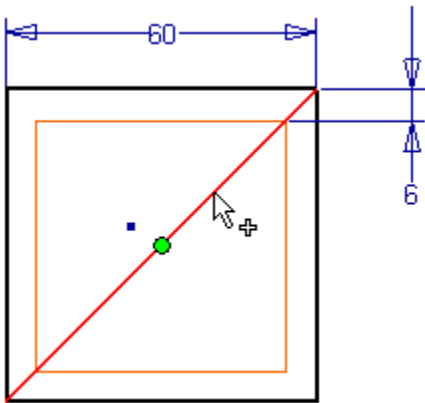

Figure 20: Sketch point at midpoint of line.
15. Click the diagonal construction line as shown in Figure 20.